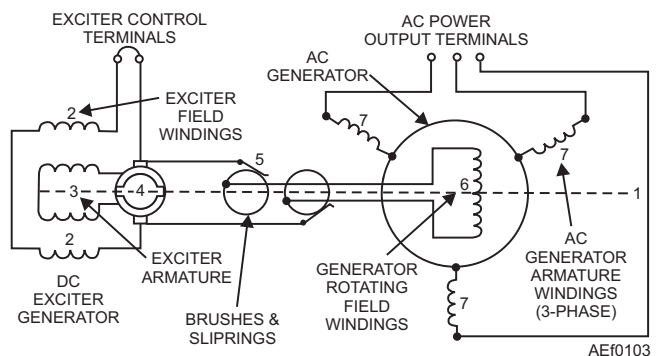

Figure 1-3.—Brush-type, three-phase ac generator schematic.
**BRUSH-TYPE.**—Figure 1-2 shows a brush-type ac generator. It consists of an ac generator and a smaller dc exciter generator as one unit. The output of the generator supplies ac to the load. The only purpose for the dc exciter generator is to supply the direct current required to maintain the ac generator field. Figure 1-3 is a simplified schematic of the generator.